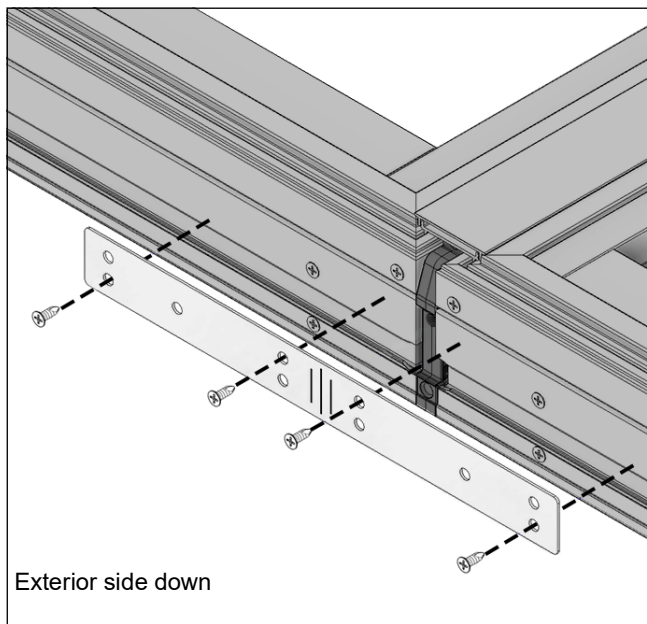

Figure 59 Remove shipping straps
1. Remove shipping straps at all mull joints, if applicable. If using single units, skip to step 4. See Figure 59.